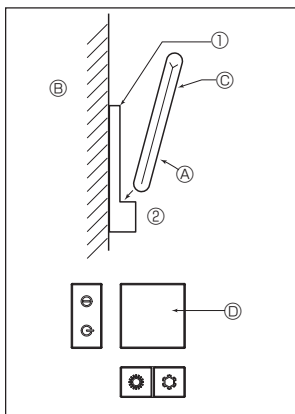

Fig. 7-7
2) Installation method (Fig. 7-7)
- ① Attach the remote controller holder to the desired location using 2 tapping screws.
- ② Place the lower end of the controller into the holder.